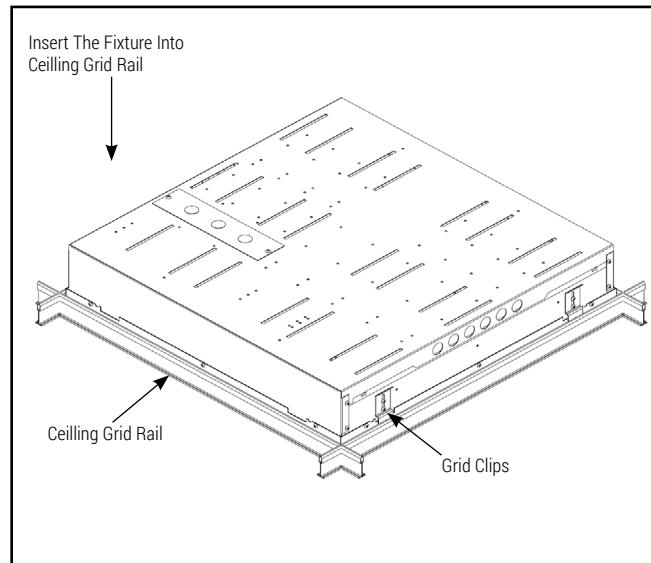

Figure 4.
5. Pass fixture through the ceiling grid at 45 degree angle and lay fixture into the ceiling grid. Use grid clips to secure the fixture to the T-grid. (Figure 4)